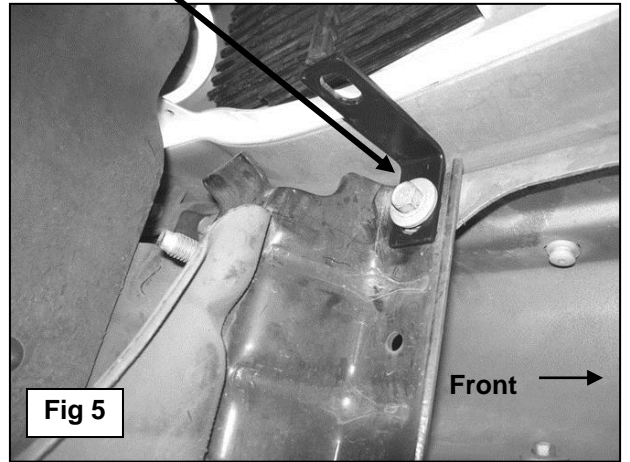

Fig 5
4. Next, remove the factory hex bolt located on the back of the front bumper securing the bumper to the top of the bumper bracket, (**Figure 4**). Select (1) "L" Top Support Bracket and attach it to the back of the bumper bracket using the factory hex bolt, (**Figure 5**). Snug but do not tighten hardware at this time. Repeat this Step to install the passenger side "L" Top Support Bracket.